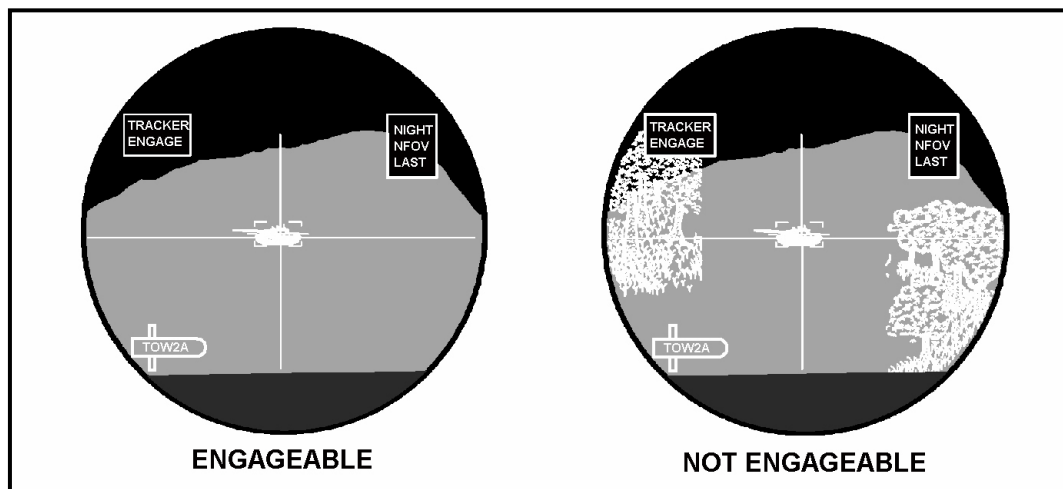

Figure 3-10. Target exposure time.
(2) If the target is moving, the gunner determines the exposure time (NFOV) (Figure 3-10).